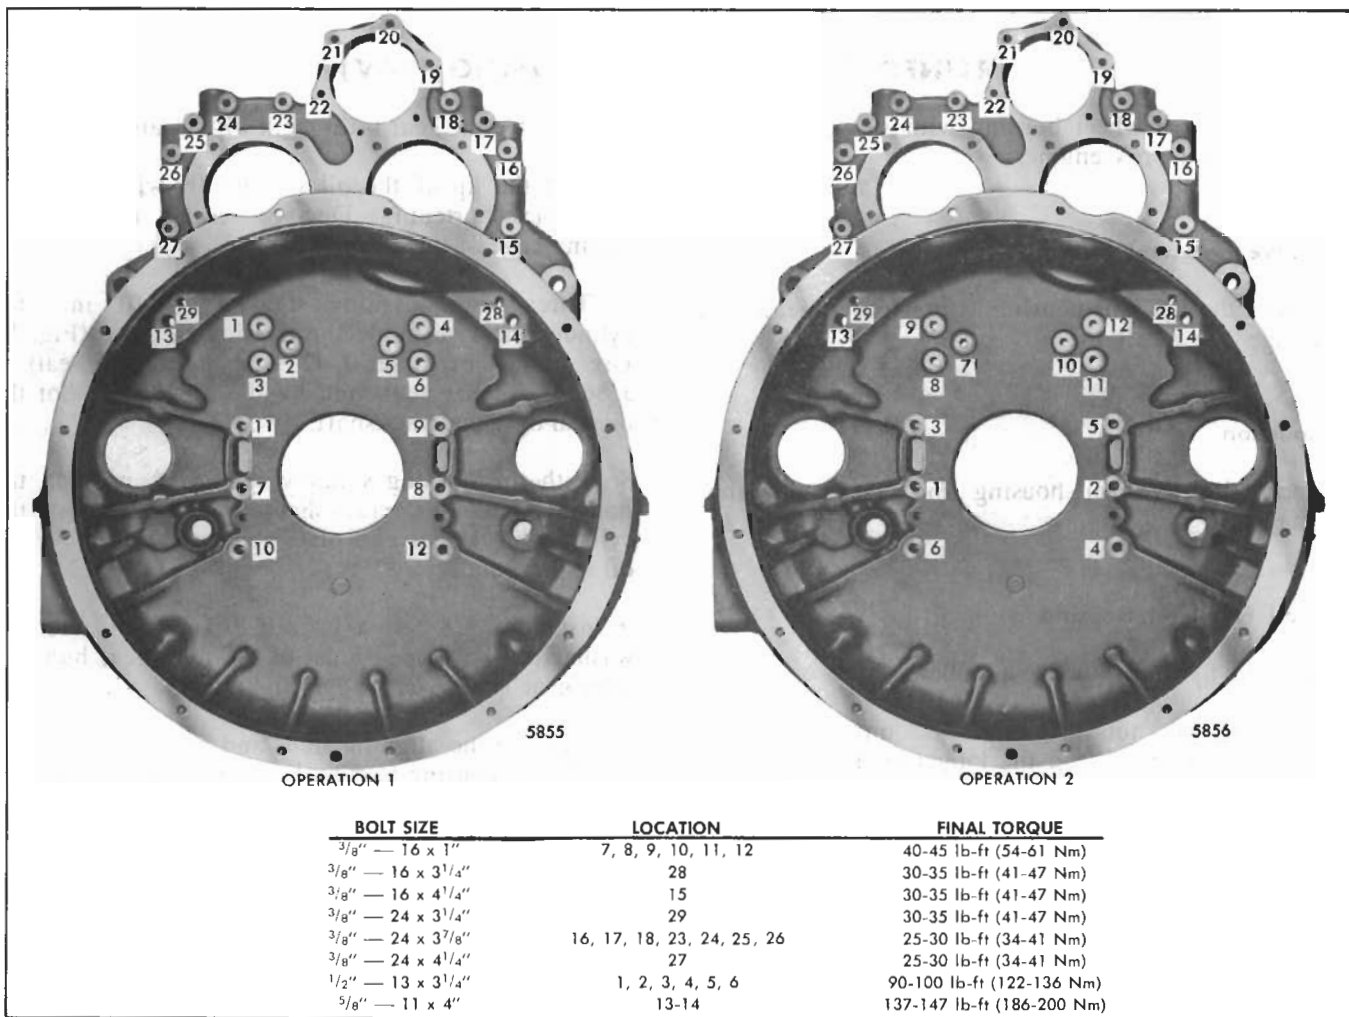

Fig. 8 - Flywheel Housing Bolt and Nut Tightening Sequence
12. Refer to Fig. 8 (Operation "1") for the bolt and nut tightening sequence and, starting at number 4 on a right-hand rotation engine or at number 1 on a left-hand rotation engine, draw the flywheel housing bolts and nuts up snug.
13. Refer to Fig. 8 (Operation "2") for the final bolt and nut tightening sequence and, starting at number 1, tighten the flywheel housing bolts and nuts to the specified torque. Tighten the 3/8"-24 bolts and nuts to 25-30 lb-ft (34-41 Nm) torque, the 3/8"-16 self-locking idler gear hub and idler gear spacer hub bolts to 40-45 lb-ft (54-61 Nm) torque, the remaining 3/8"-16 bolts to 30-35 lb-ft (41-47 Nm) torque and the 1/2"-13 bolts to 90-100 lb-ft (122-136 Nm) torque. Tighten the two 5/8"-11" outboard flywheel housing bolts on the left and right side to 137 to 147 lb-ft (186-200 Nm) torque. Be sure to rotate the crankshaft when tightening the idler gear hub bolts.